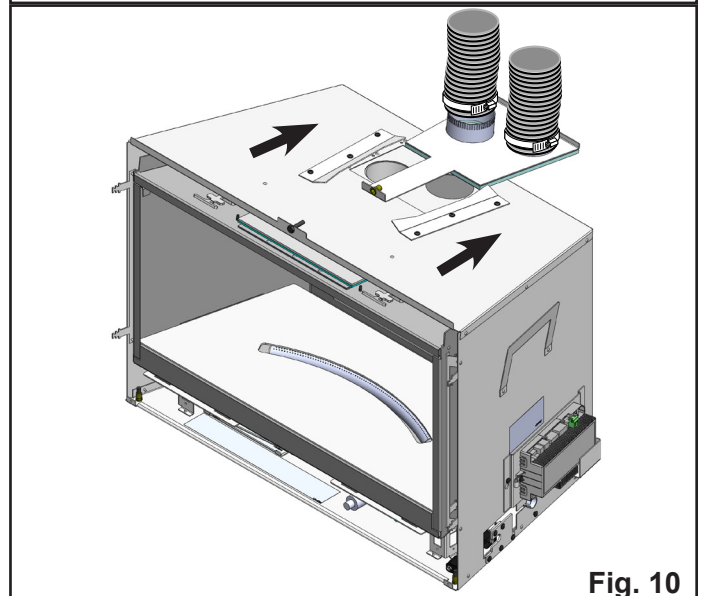

Fig. 10
4. Slide the appliance into the fireplace while aligning the Vent Connector into the guides on top of the appliance. (**Fig. 10**)